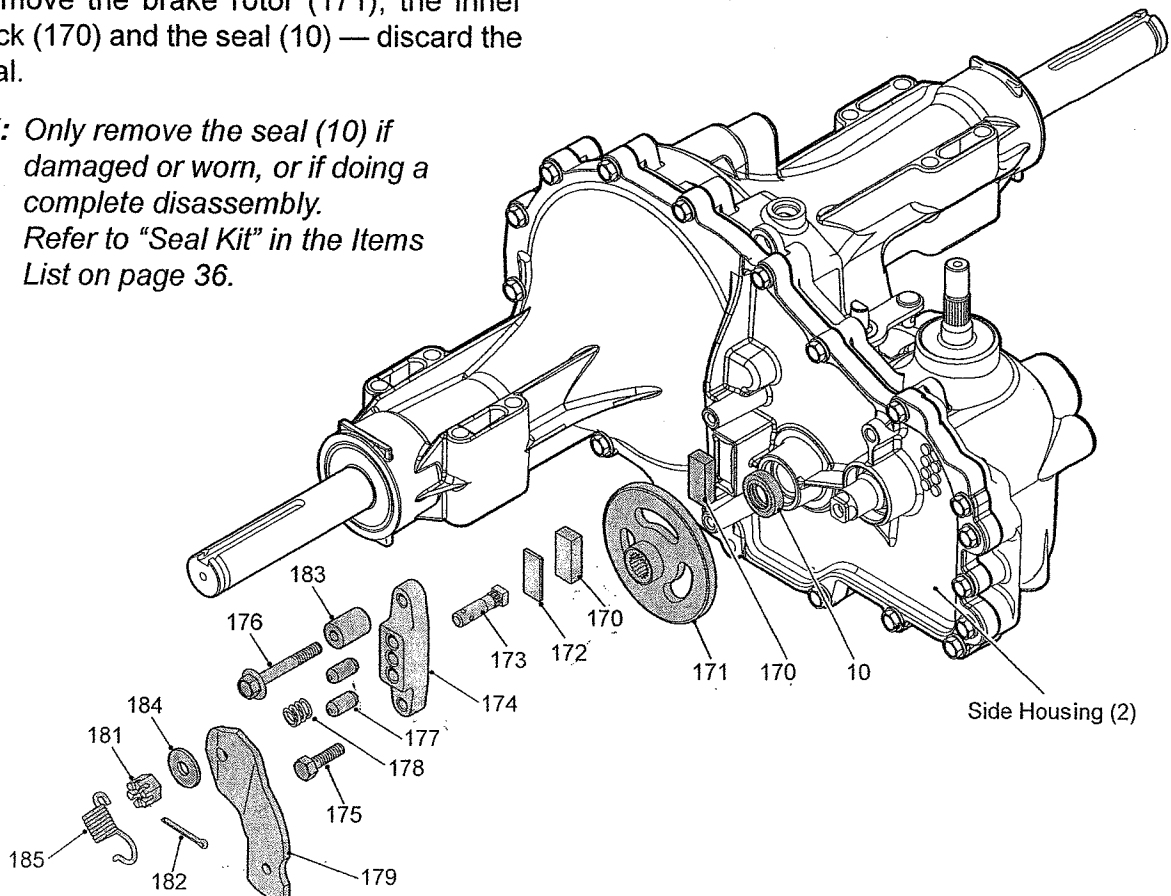

Figure 8, Brake Assembly
Refer to Figure 8
Refer to Figures 8 and 9
1. Remove the brake arm bias spring (185), the cotter pin (182) and loosen the brake castle nut (181). Refer to figure 8.
2. Insert a 0.015" feeler gage between the brake rotor (171) and top brake puck, and then set the brake by finger tightening or loosening the castle nut.